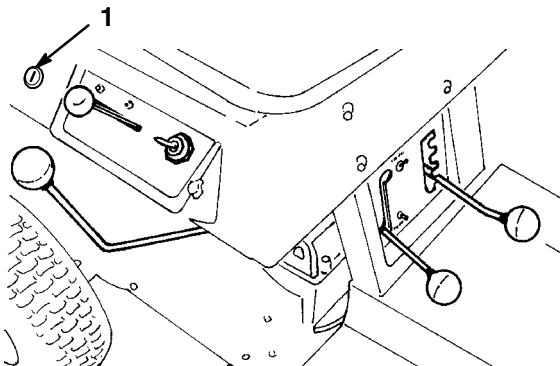

Figure 9
If you need to use the PTO while backing up, you can turn off this interlock feature using the KeyChoice switch located near the seat bracket (Fig. 9).
2. Insert the KeyChoice key into the switch (Fig. 9).